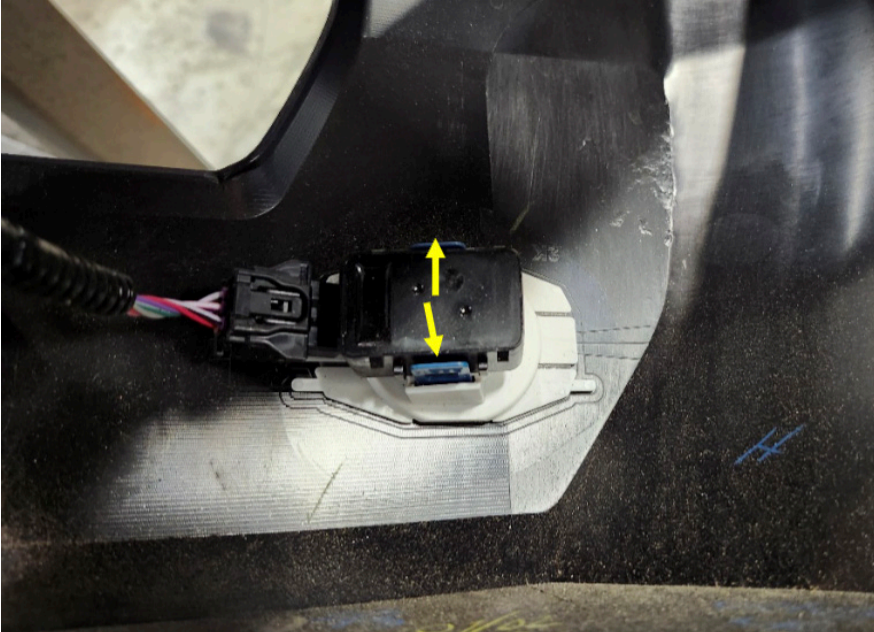

Figure 9
8. Mark the location and orientation of all four (4) sensors in bumper. Unclip each sensor from its housing and remove from bumper but carefully prying clips open and pulling out sensor. (Figure 9)